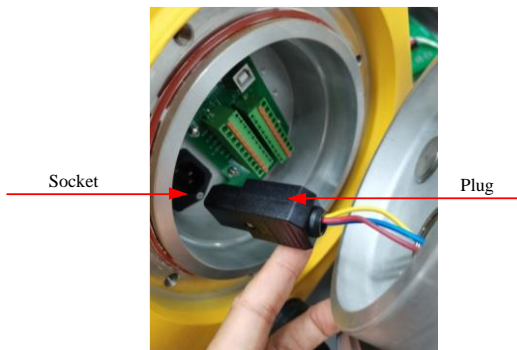

Figure 21
- 6) Insert the connected cable plug into the corresponding socket on the housing, as shown in the following Figure 21: